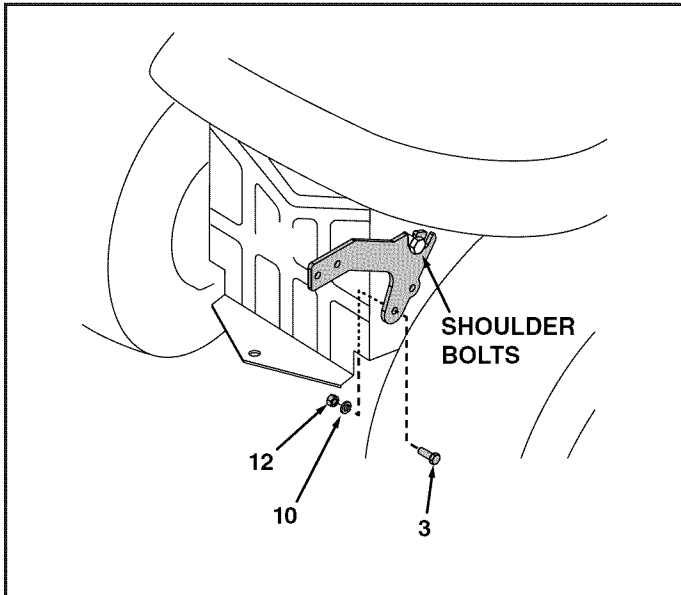

FIGURE 4
1. Place the second notch in top of weight bracket arm (2a) onto shoulder bolt in side of drawbar. Secure bottom of arm to drawbar using a 3/8-16 x 1" hex bolt (3), a 3/8" lock washer (10) and a 3/8-16 hex nut (12). Repeat on other side. See figure 4.
2. Assemble the weight bracket (1) to weight bracket arms (2a) using four 3/8-16 x 1" hex bolts (3), 3/8" lock washers (10) and 3/8-16 hex nuts (12). See figure 4.
3. Assemble wheel weight to weight bracket (1) using two 1/2" x 5-1/2" hex bolts (15), 1" O.D. washers (5), 1/2" lock washers (9) and 1/2-13 hex nuts (11). Tighten securely. See figure 4.
2. Assemble the weight bracket (1) to weight bracket arms (2b) using four 3/8-16 x 1" hex bolts (3), 3/8" lock washers (10) and 3/8-16 hex nuts (12). See figure 4.